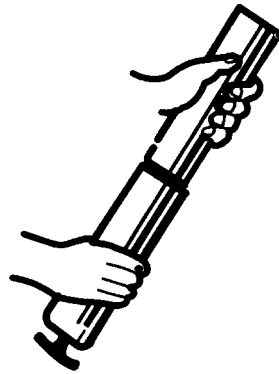

Fig. 1:
1. Cartridge Loading (Figure 1):